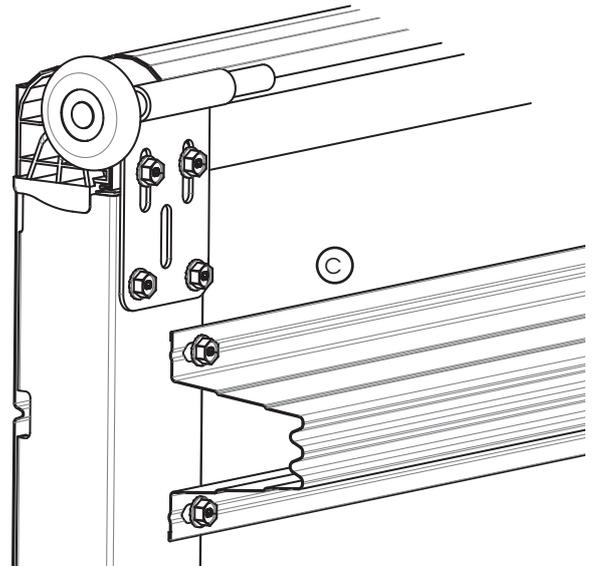

Fig: 3.3.1
- b) Secure the panel reinforcing bar © to the top panel with 2 screws per stile as per Fig 3.3.1.